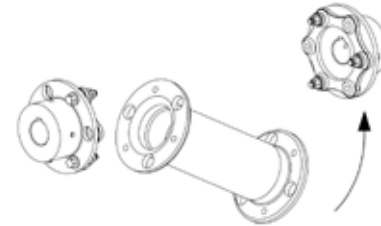

Figure 3 - Position spacer up between hubs.
3.1. Position the spacer between the hubs as shown in Figure 3.